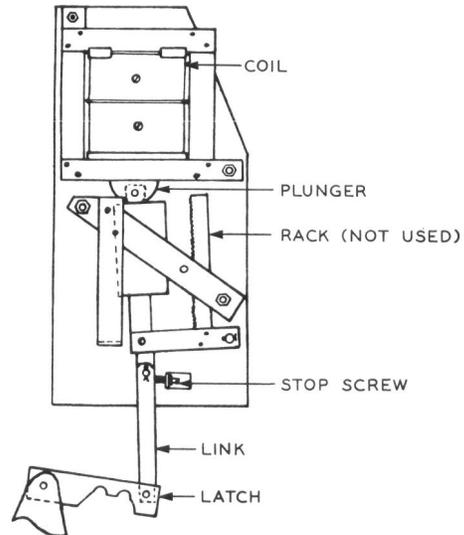

Fig. 15 – Solenoid-type Undervoltage Release — Without Time-delay Feature
(1) If the undervoltage release of the contactor type does not hold closed firmly at the line voltage, be sure the circuit through the stop button switch and overload relay contacts in series with the coil is complete. (See circuit on inside of starter cover.) Check that the spring holds the armature against the pole piece even when there is no voltage on the coil. Check the voltage across the coil with a voltmeter. If the voltage is satisfactory, connect the meter in series with the coil. A reading of no voltage indicates an open-circuited coil which should be replaced.
(2) If the plunger on the solenoid type of release does not pull up, check the coil with a voltmeter across it and in series with it as above. If the coil is satisfactory, check for binding of the mechanism. If the plunger pulls up but the latch does not hold in, check for worn latch mechanism. Then note the action of the two links between the latch and the release mechanism shown in Fig. 15. These links are pinned together and have a toggle action so that the rising of the solenoid holds them against the adjustable stopscrew and holds the latch engaged. If the stopscrew is adjusted inward so far that the links can not be brought up to center (in line), the latch will not be held engaged. The latch also will not be held engaged if the screw is outward so far that the links go much beyond center on the stop side. The best adjustment is for the links to be on center when the solenoid is pulled up. If necessary, adjust the stopscrew accordingly and check the action of the release mechanism for holding on line voltage and for releasing on no voltage.
(3) If the release of either the contactor or solenoid type does not allow the starter to trip when the voltage across the coil decreases, check for binding of the armature, solenoid, linkage, etc.
(4) If the delay in the release of a starter equipped with a delay feature is outside the limits, examine the mechanism and remove foreign material, grease, or dirt as required. The form K33 starter may be provided with a dc time-delay release of the contactor type. The time delay on this type can be varied by using nonmagnetic shunts of different